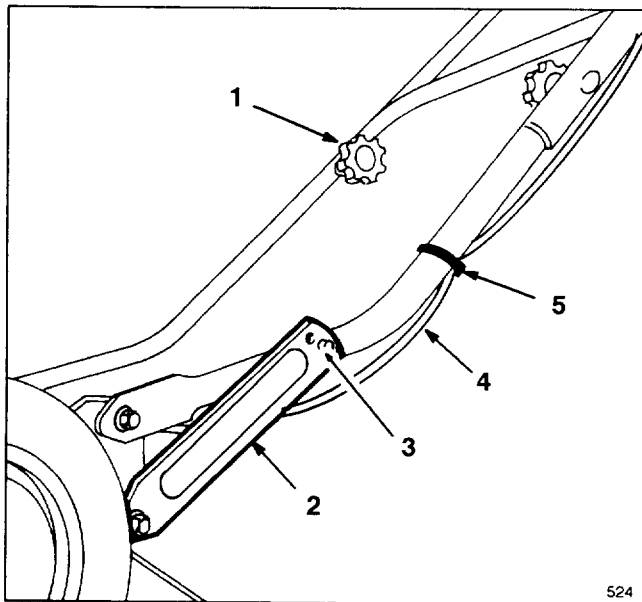

Figure 1
1. Align handle and tighten handle knobs (Fig. 1). Move handle latches slightly outward so they will not be in the way when pivoting the handle backward into the operating position (Fig. 1).
2. Pivot handle backward. Move handle latches inward while snapping handle stud into center hole of handle latch (Fig. 1). If a handle latch does not fit tightly against the handle tube, remove latch from handle stud, bend the latch inward, and reattach to handle stud. Repeat as necessary to ensure a tight fit between latch and handle.
**Note:** If handle height is not satisfactory, adjust by placing handle stud (Fig. 1) into a different hole.
3. Ensure control cables (Fig. 1) are to the rear and inside of handles. Secure cables to handle with cable ties. Tighten handle knobs securely.